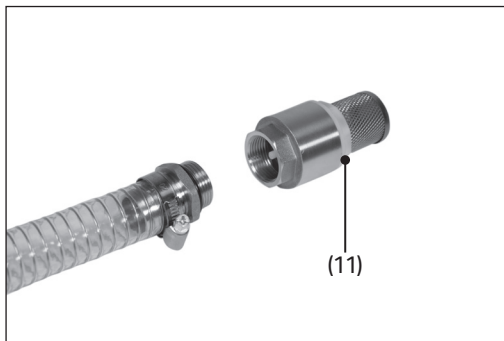

Fig. 3
- c. Attach the other end of the hose to the pickup filter (11) (Fig. 3).